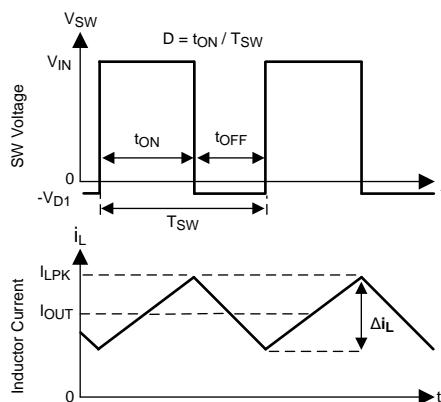

Figure 25. SW Node and Inductor Current Waveforms in Continuous Conduction Mode (CCM)
The following operating description of the LM43602-Q1 refers to the Functional Block Diagram and to the waveforms in Figure 25. The LM43602-Q1 is a step-down buck regulator with both high-side (HS) switch and low-side (LS) switch (synchronous rectifier) integrated. The LM43602-Q1 supplies a regulated output voltage by turning on the HS and LS NMOS switches with controlled ON time. During the HS switch ON time, the SW pin voltage V_{SW} swings up to approximately V_{IN} , and the inductor current i_L increases with a linear slope $(V_{IN} - V_{OUT}) / L$. When the HS switch is turned off by the control logic, the LS switch is turned on after a anti-shoot-through dead time. Inductor current discharges through the LS switch with a slope of $-V_{OUT} / L$. The control parameter of buck converters are defined as duty cycle $D = t_{ON} / T_{SW}$, where t_{ON} is the HS switch ON time and T_{SW} is the switching period. The regulator control loop maintains a constant output voltage by adjusting the duty cycle D . In an ideal buck converter, where losses are ignored, D is proportional to the output voltage and inversely proportional to the input voltage: $D = V_{OUT} / V_{IN}$.